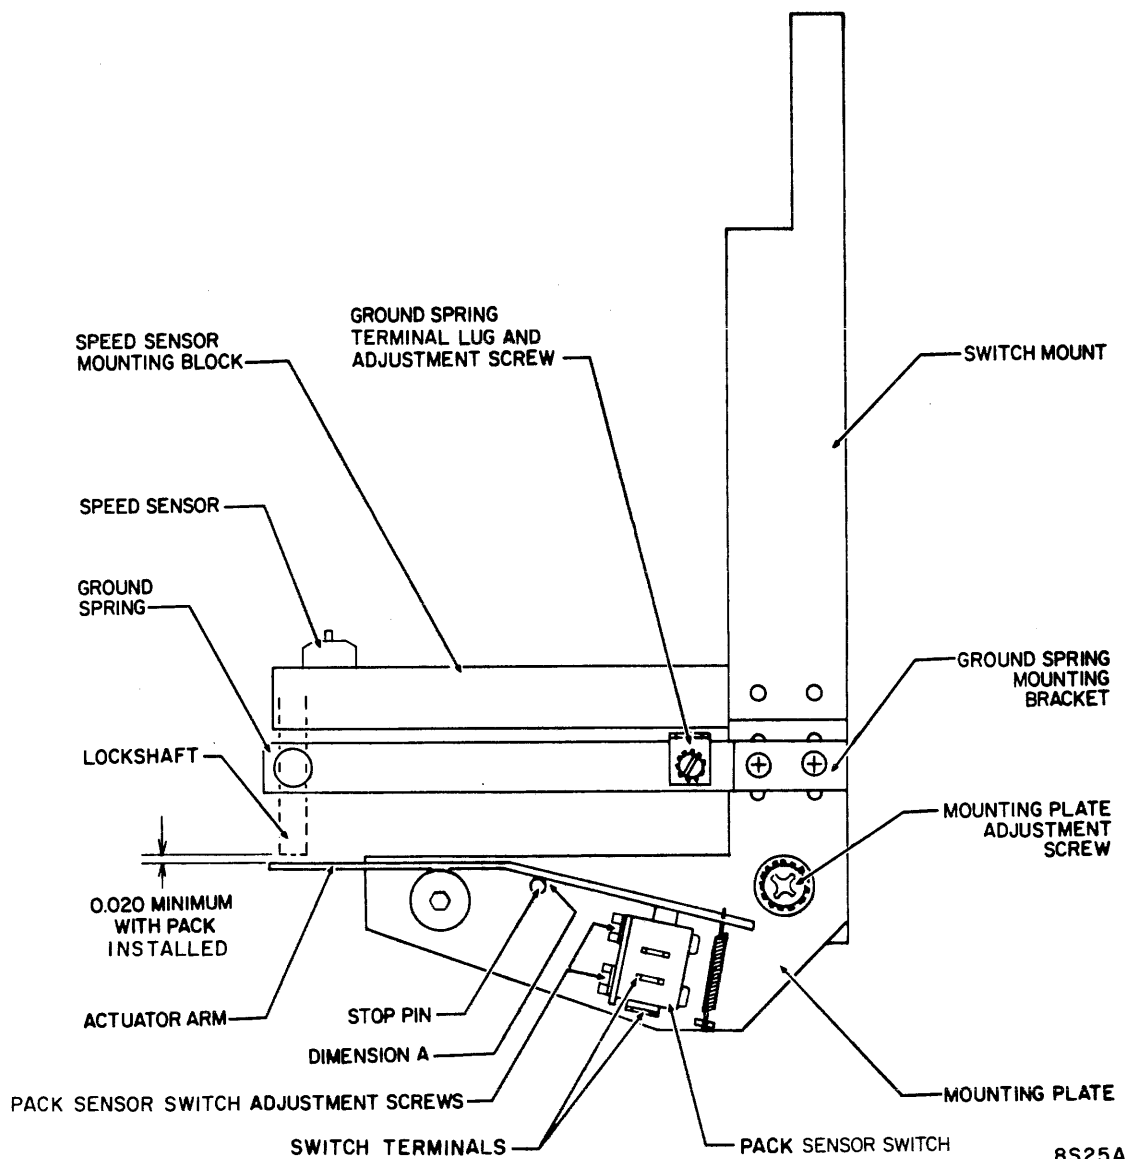

Figure 3-35. Pack Sensor Assembly
5. Identify pack sensor switch leadwires (figure 3-35). Disconnect leadwires at switch.
5. Identify pack sensor switch leadwires (figure 3-35). Disconnect wires at switch terminals.
6. Dimension between actuator arm and lockshaft must be as specified in figure 3-35. If dimension is as specified, go to step 10. If adjustment is required, go to step 7.
7. Loosen mounting plate adjustment screw (figure 3-35).
9. Position mounting plate until dimension between actuator arm and lockshaft is as specified in figure 3-35. Tighten screws.
10. Connect a multimeter (set to Rx1) to pack sensor switch terminals (figure 3-35). Meter must indicate 0 ohms. If correct go to step 12, if not go to step 11.
12. Insert an .011 inch thick feeler gage between actuator arm and stop pin (dimension A of figure 3-35).
5. Identify pack sensor switch leadwires. Disconnect wires at switch (figure 3-35).
8. Remove mounting plate adjustment screw (Figure 3-35). Remove mounting plate.